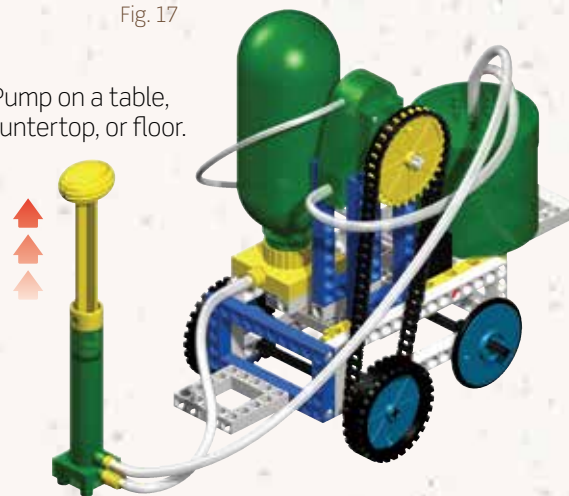

Fig. 18
- About ten pumps are needed to start pushing water from the water storage tank into the pressurized air+water tank. Hold the pump handle up for two or three seconds before you push it down again so that the most water can be driven into the pump cylinder during each pump (Fig. 18).